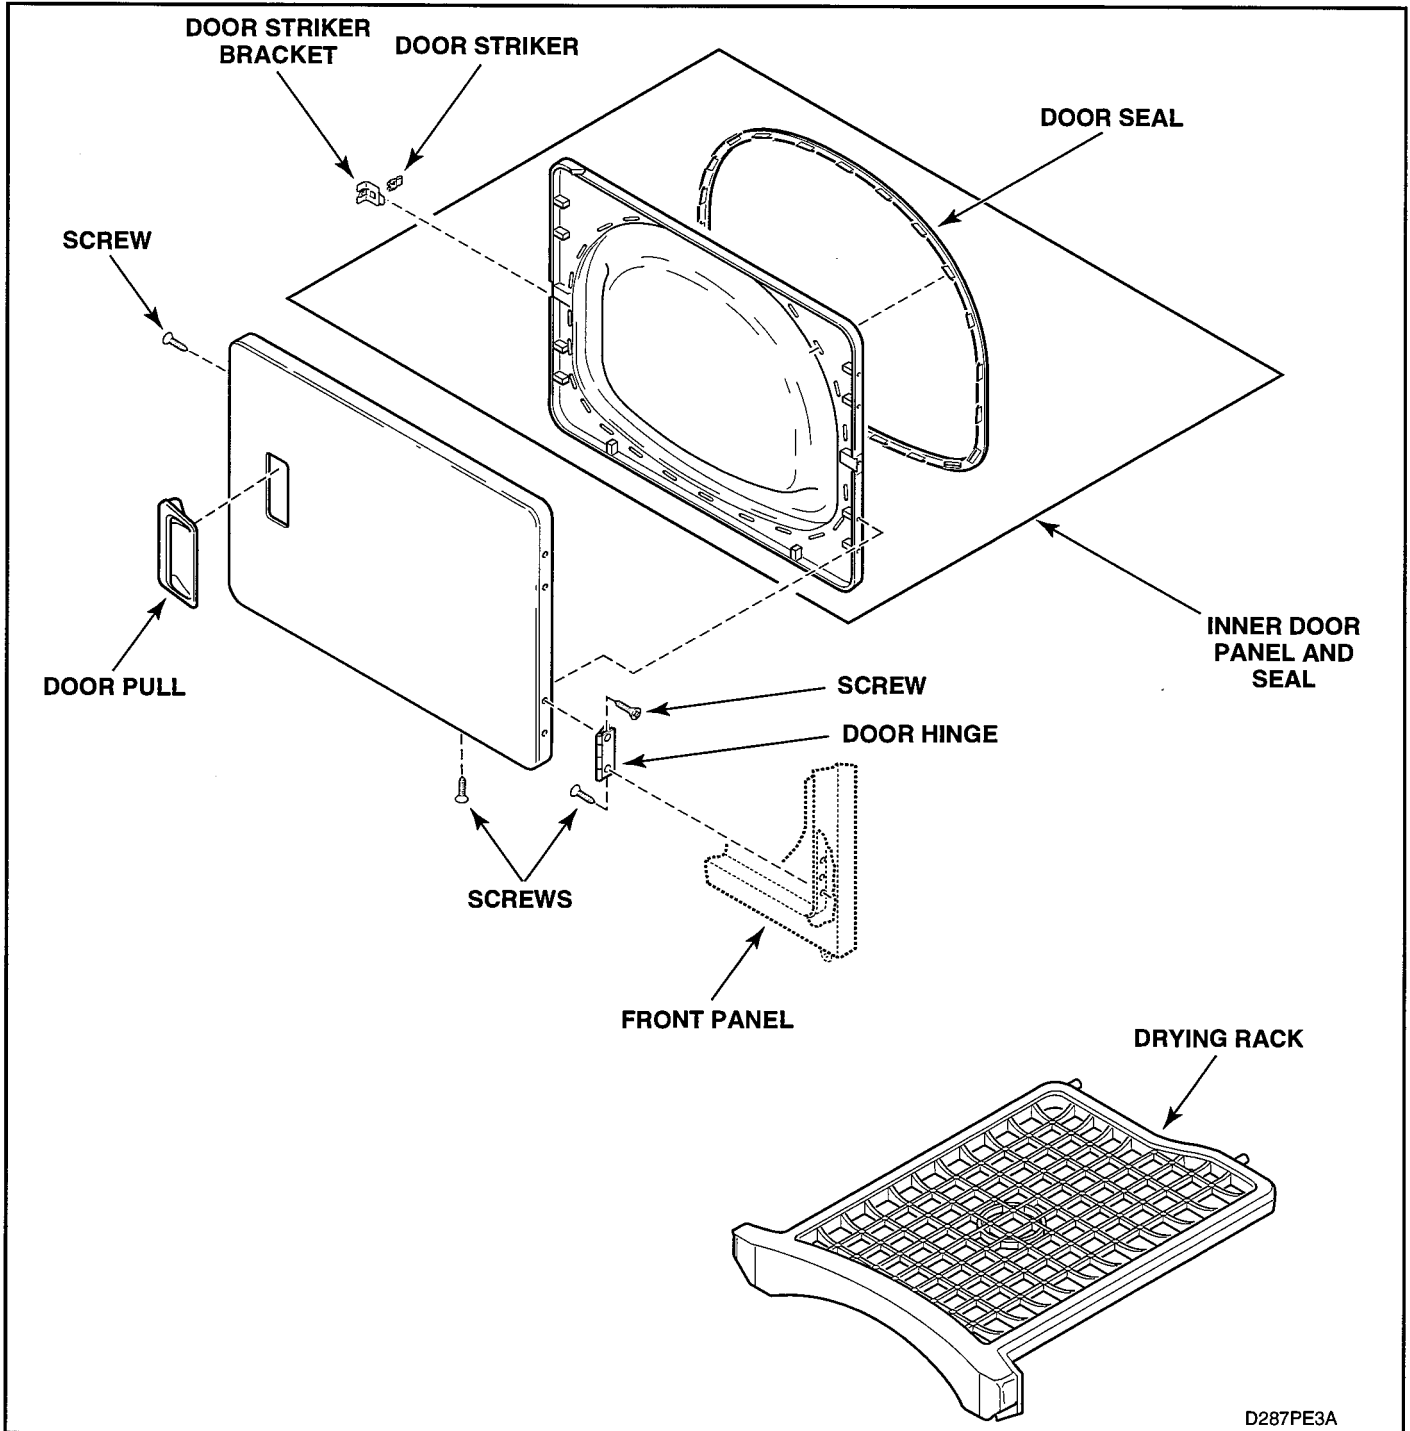

Figure 5-6
- b. Carefully remove door pull. See figure 5-6.
- c. Remove remaining screws around the door perimeter and separate panels. See figure 5-6.
14. DOOR STRIKE (FIGURE 5-6)